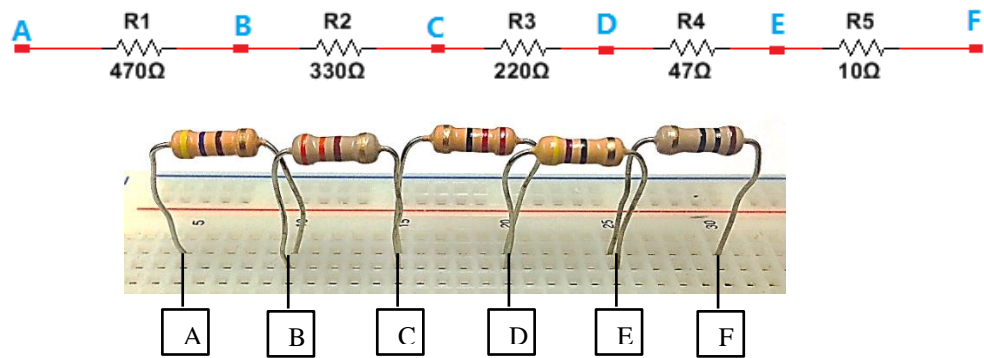

Figure 2.7 – Connecting resistors together as a chain
- b. Connect the resistors together as a chain in the protoboard. Check Figure 2.7.